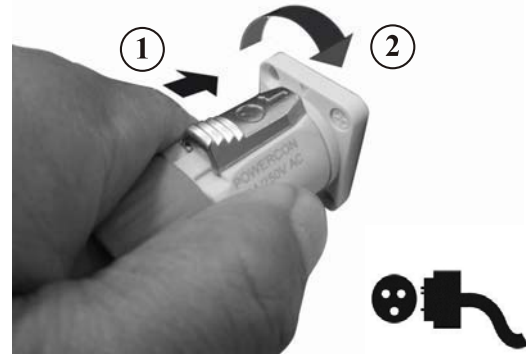

Fig 10.2
26. Connect the charger end to the specially designed connection point (Fig 10.2). Plug the other end of the charger into a standard wall outlet to reenergize the batteries. The charger will automatically shut off and the light will indicate the color GREEN when the unit is fully charged.